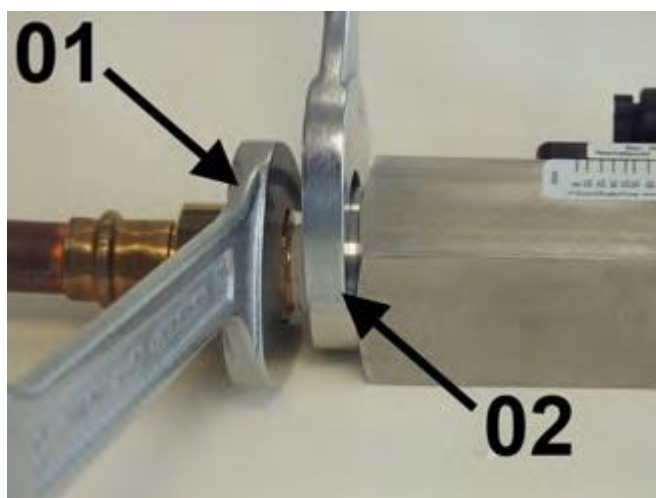

Fig. 12 Screw in the device
3. ► Keep turning in the adapter union (Fig. 12/01) while holding the process connection of the device locked (Fig. 12/02) until the connection is tight.